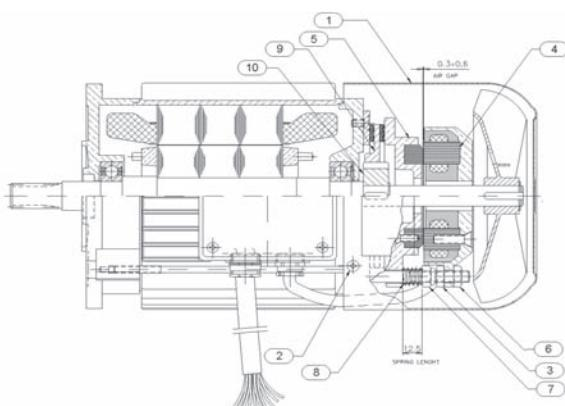

Figure 11, Two-speed Brake Motor, ABK101
- The procedure for resetting the air gap, figure 11, is as follows:
- Remove the brake's protective cover (1). To do this, the following operations must be carried out:
- Remove the attachment bolts (2).
- Remove the protective cover (1). When this has been removed, the brake is visible.
- Loosen the nuts (3). Then, placing a gauge of thickness 0.3 mm into the air gap, move the body of the coil of the magnet (4) to the free yoke (5) using the nuts (6).
- After aligning all the nuts (6) so that the bracket of the magnet adapts perfectly to them, screw in the nuts (3) to lock out the magnet.
- Complete the operation by assembling and locking in the protective casing (1) with the bolts (2).
It is advisable to replace the brake disc when its thickness falls below 6 mm. The procedure for its replacement is as follows, figure 11:
- Remove the protective cover for the brake (1) and the fan.
- Unscrew and remove the nuts (6).
- Carefully remove the magnet (4) and ensure that it is supported, in order to prevent damage to the cable connecting it to the motor.
- Remove the nuts (3) and (7), the springs (8) and the free yoke (5).
- Remove the brake disc (9). Clean and de-lubricate the friction surfaces and the toothed component (10)..
- Check that the new disc (9) does not contain any impurities on the serrated section, and then attach it to the toothed component (10). The correct assembly position is shown in figure 11.
- Check that the part has no difficulties with axial movements. Insert the free yoke (5) into the guides, and slide it until it rests on the brake disc.
- Insert the springs (8) and the nuts (7) to a spring length (8) of 12.5 mm.
- Position the nuts (3), the magnet (4) and another set of nuts (6).